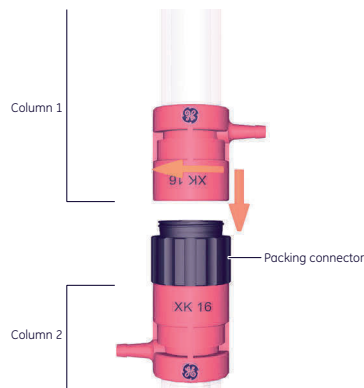

Fig. 7 Connecting the column to another column.
Packing the column can be performed using either a packing reservoir (Fig 8) or an extra column tube, which is attached via a packing connector (Fig 7). Detailed procedure for column packing is described in the Instructions for each gel medium and also in the Gel Filtration Handbook Principles and Methods (Code 18-1022-18).
- 2 Attach the additional column tube to the column with a packing connector (Fig 7).